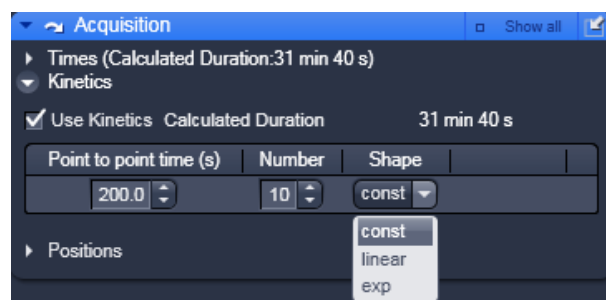

Fig. 41 Use Kinetics panel
- Check the **Use Kinetics** box (Fig. 41) to obtain the **Use Kinetics** panel